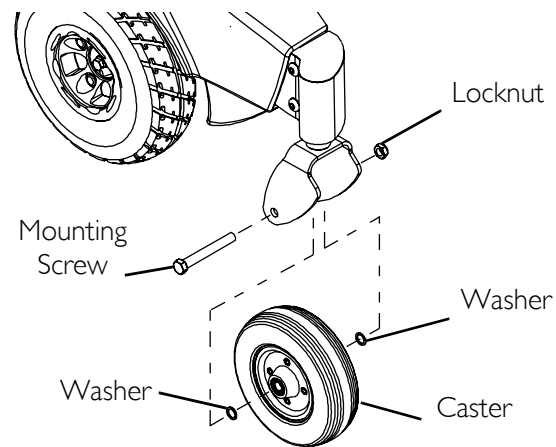

FIGURE 8.3 Replacing Front/Rear Caster Assemblies
NOTE: For this procedure, refer to FIGURE 8.3.
3. Secure new caster to fork with existing mounting screw, two washers and locknut (FIGURE 8.3). Securely tighten.